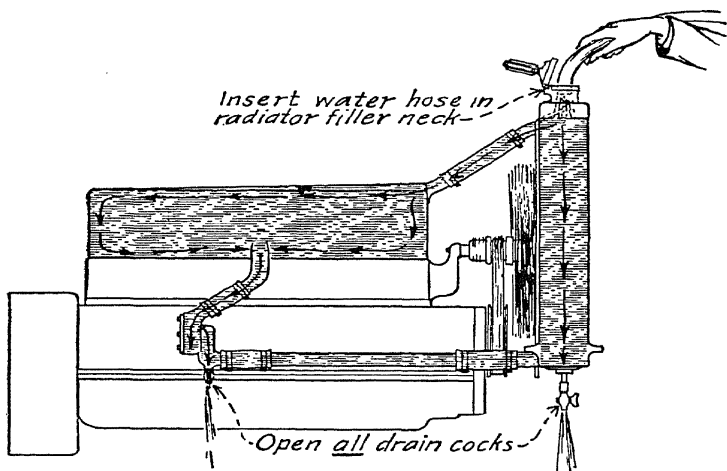

Fig. 19. Ordinary Method of Flushing the Cooling System
*Flushing a Normal Cooling System.* When servicing the cooling system of a car which has shown any tendency of overheating, all that is necessary is to flush the system as shown in Fig. 19. It will be noted in this case that any petcocks such as those in the radiator